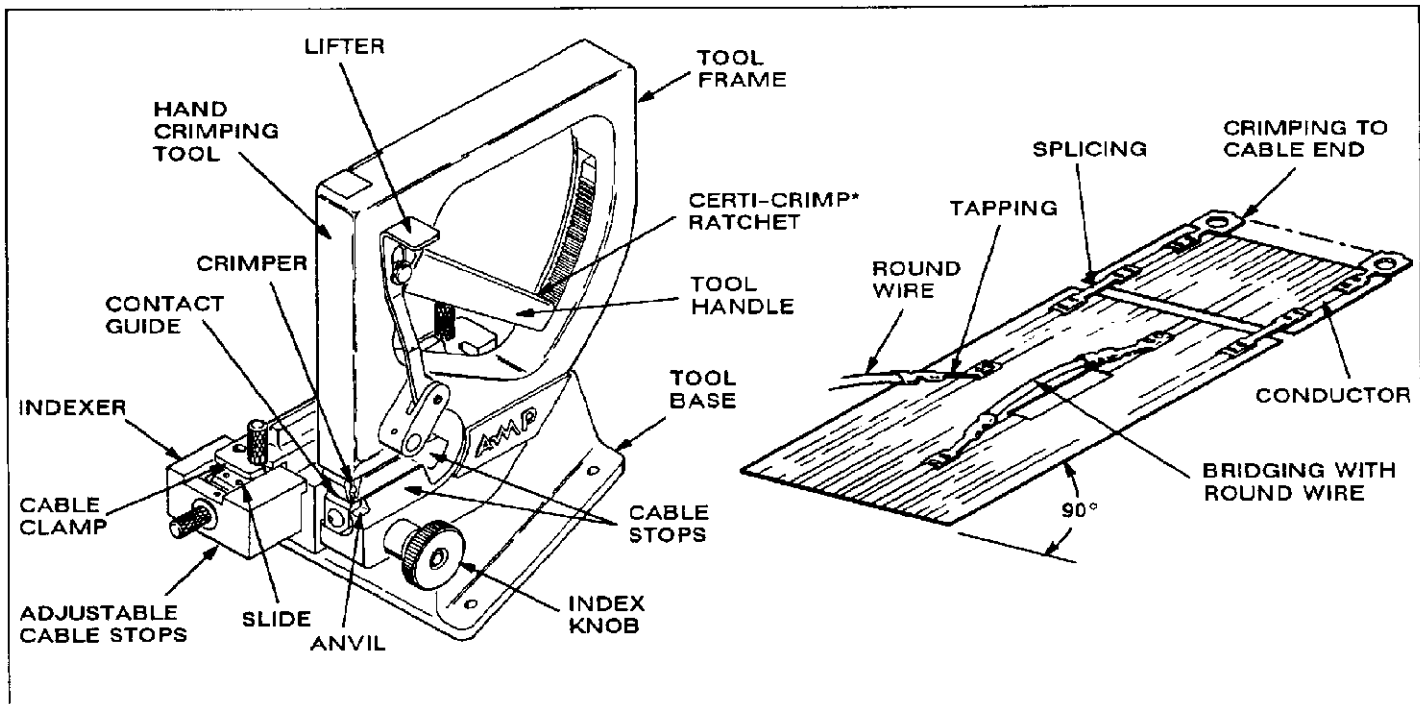

Fig. 1
AMP Hand Crimping Tool Assembly 90273-2 is designed to crimp the contacts listed in Figure 2 to Flexible Flat Cable (FFC) having conductors on .100-in. centers. This tool can be used to crimp contacts to a cable end, to tap a circuit (round wire to FFC, FFC to FFC), to bridge over a damaged area, and to splice one cable to another (see Figure 1).
2. DESCRIPTION (Figure 1)